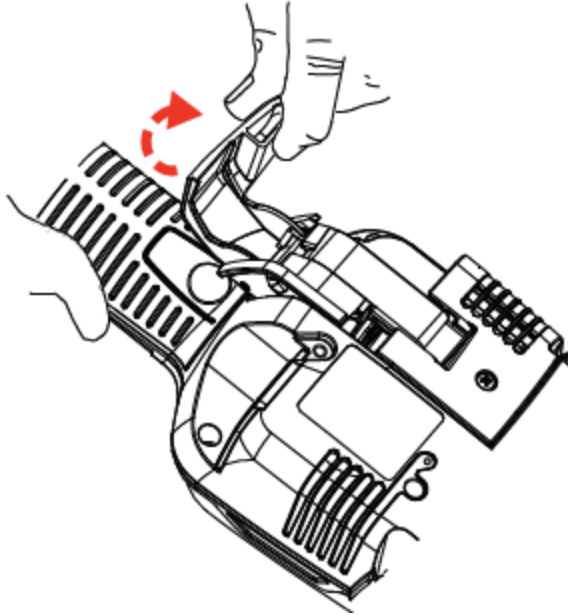

Figure 8-4: Accessing the sensing element
Step 3: Pull the door out horizontally, parallel to the Fido X4, as shown in Figure 8-4, until it is fully extended in that direction.
Caution: Do not continue to the next step without fully extending the door in a horizontal direction as shown in Figure 8-4, or you may break the sensing element.